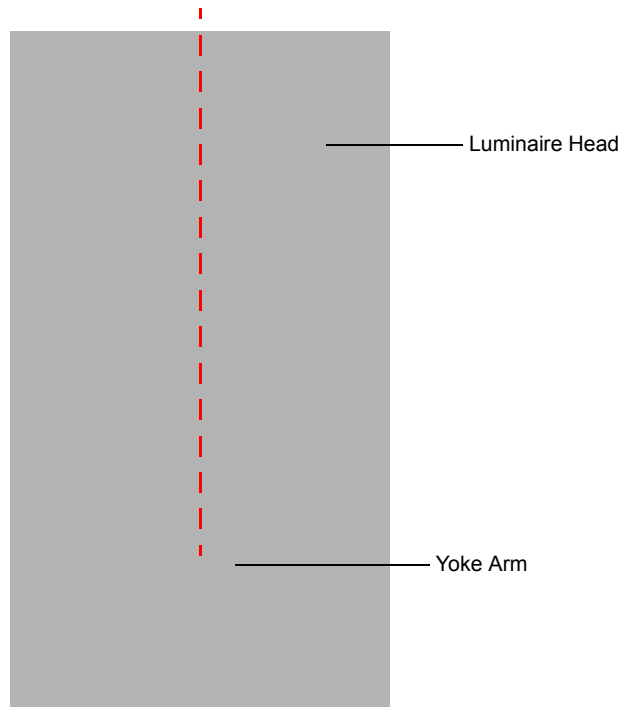

Figure 5: VL4000 BeamWash Luminaire
- Step 4. Manually move by hand the tilt of the luminaire's head until it is in alignment with the yoke arm as shown in Figure 5.